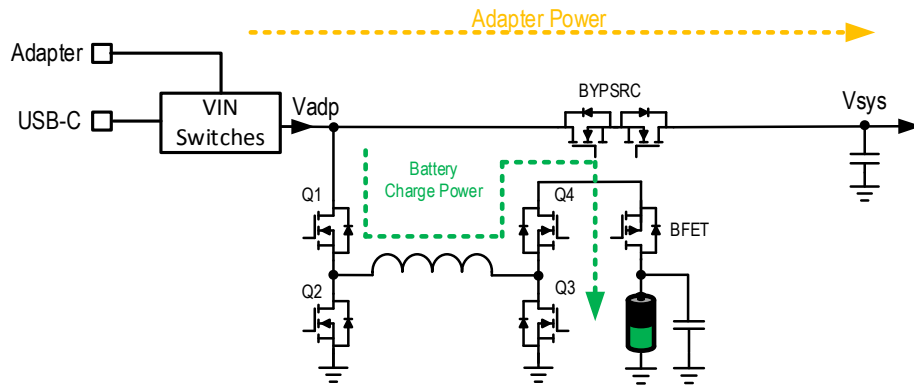

Figure 5. Renesas HPBB Buck-Boost Charger Configuration
- i. Input power > system power: If this condition is met, the buck-boost battery charger will not provide power to the system. Instead, the buck-boost charger can be in standby mode if the battery pack is fully charged or it is charging the battery pack. Figure 5 shows the power path in HPBB mode for this scenario.